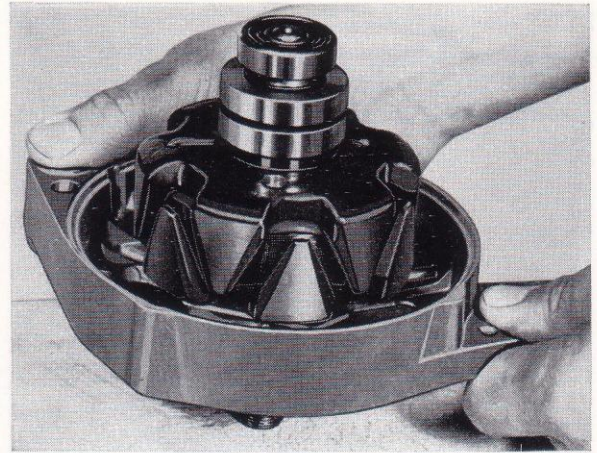

Fig. 28. Removing the drive end shield
7. Release the three screws holding the support plate of the drive end bearing. Release the bearing by knocking the end of the shaft against a piece of wood, see Fig. 28.